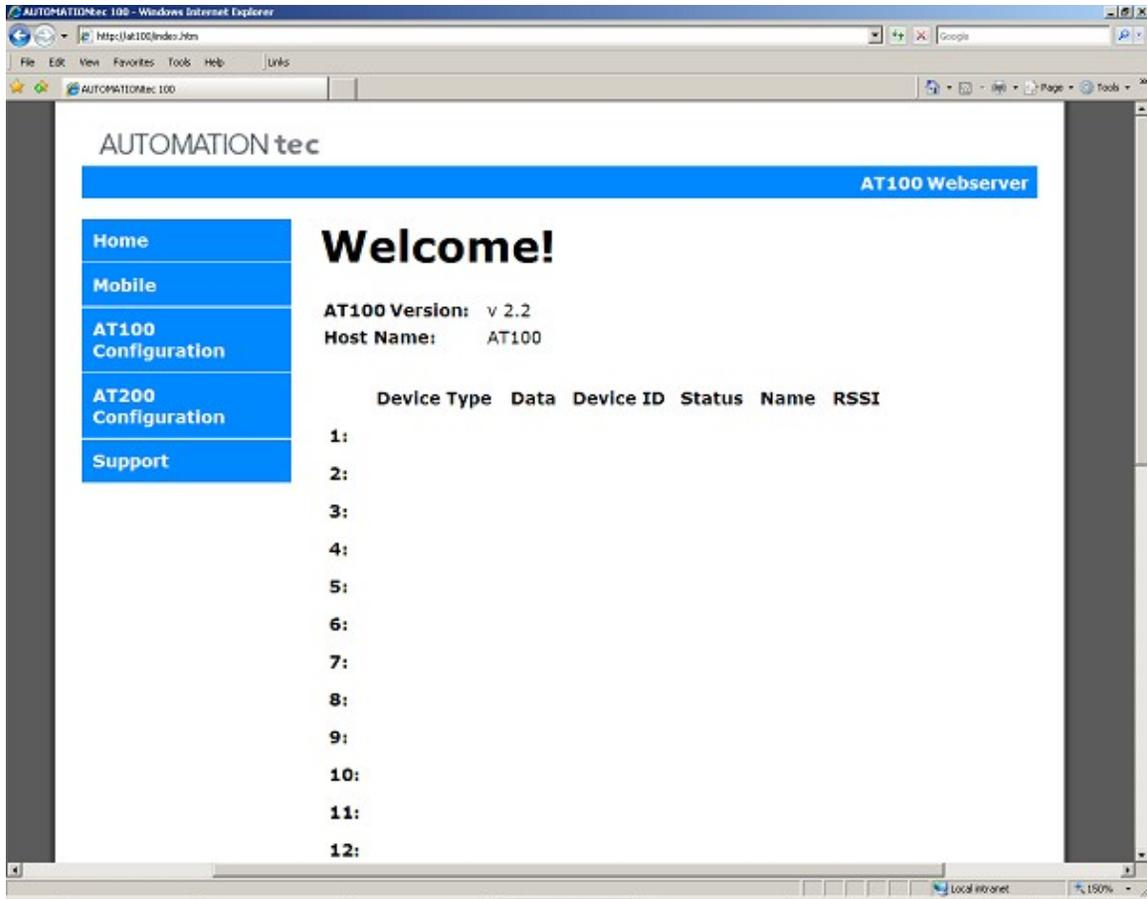

Fig 1
5. Type "http://at100" in the address bar at the top of the screen(make sure you're not typing in the search bar) and press ENTER on the keyboard. A page similar to Fig 1 should be displayed.
5. Type "192.168.1.250" in the address bar at the top of the screen and press ENTER on the keyboard. A page similar to Fig 1 should be displayed.
The version number might vary and device list may be blank as shown in Fig 1. This home page will show the data and status from each AT200 sensor module once they are configured.